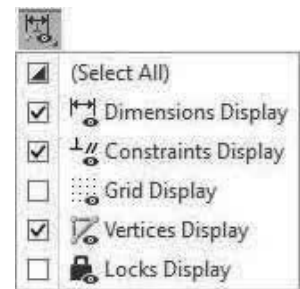

Figure 3-15 Sketcher Display Control
**Sketcher Display Filter**—Allows the user to control the display of sketcher dimensions, sketcher constraints, the sketcher grid, and sketcher vertices (end points). This tool only shows up when you are in sketcher. See Figure 3-15.